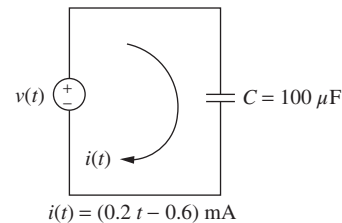

Figure P2.5 Voltage across a capacitor.
- 2-5.** The voltage across the capacitor shown in Fig. P2.5 is given by the quadratic equation $v(t) = t^2 - 6t$. Find t when